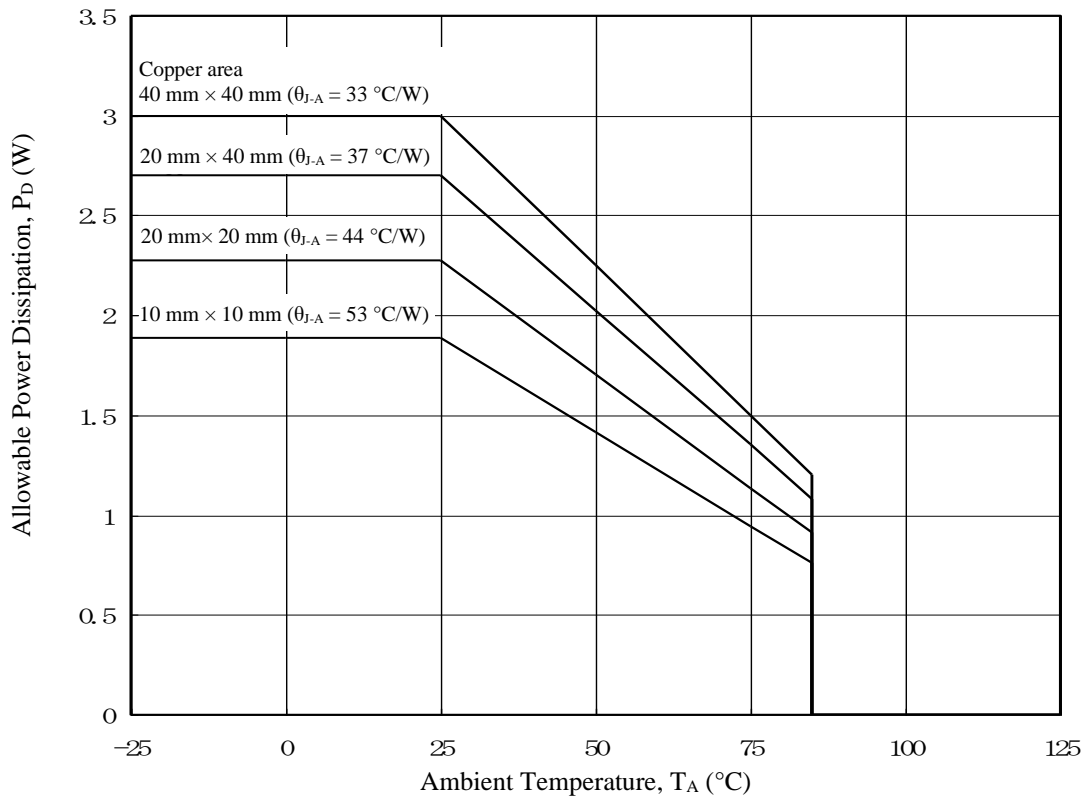

Figure 13-6. Thermal Derating
Figure 13-6 shows the thermal derating of the IC. When using the IC, ensure a sufficient margin.
- (3) Determine the copper area by confirming the intersection of ambient temperature and power dissipation by the thermal derating characteristics shown in Figure 13-6.